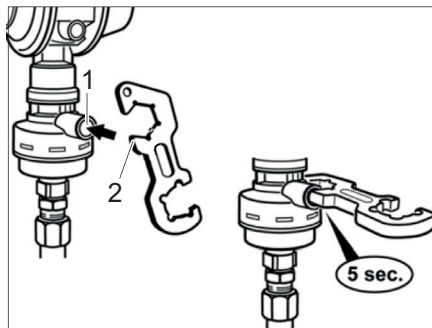

Fig. 83 Crash sensor
- Using the screwing aid (Fig. 83,2) or a similar suitable object, press the release button (Fig. 83,1) and hold it for 5 seconds.